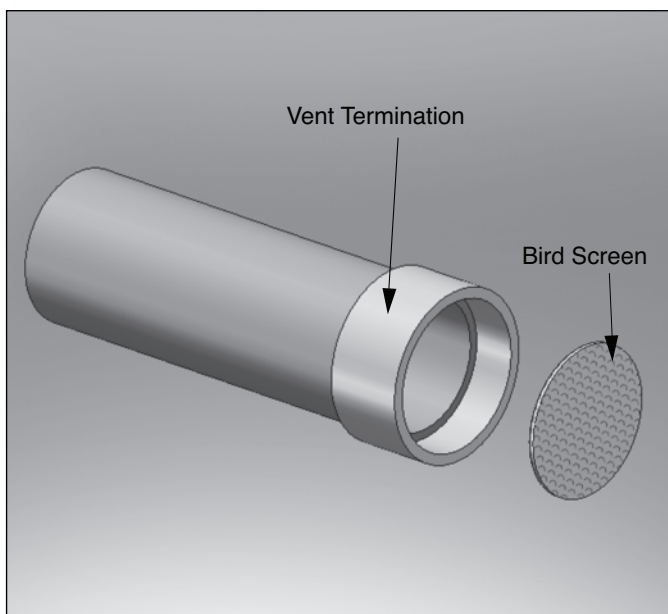

Fig. 9: Horizontal Vent Bird Screen Installation with Coupling Termination
1. The vent and combustion air terminations must include a factory supplied "bird screen" installed as shown in Figs. 9 & 10 on page 20.